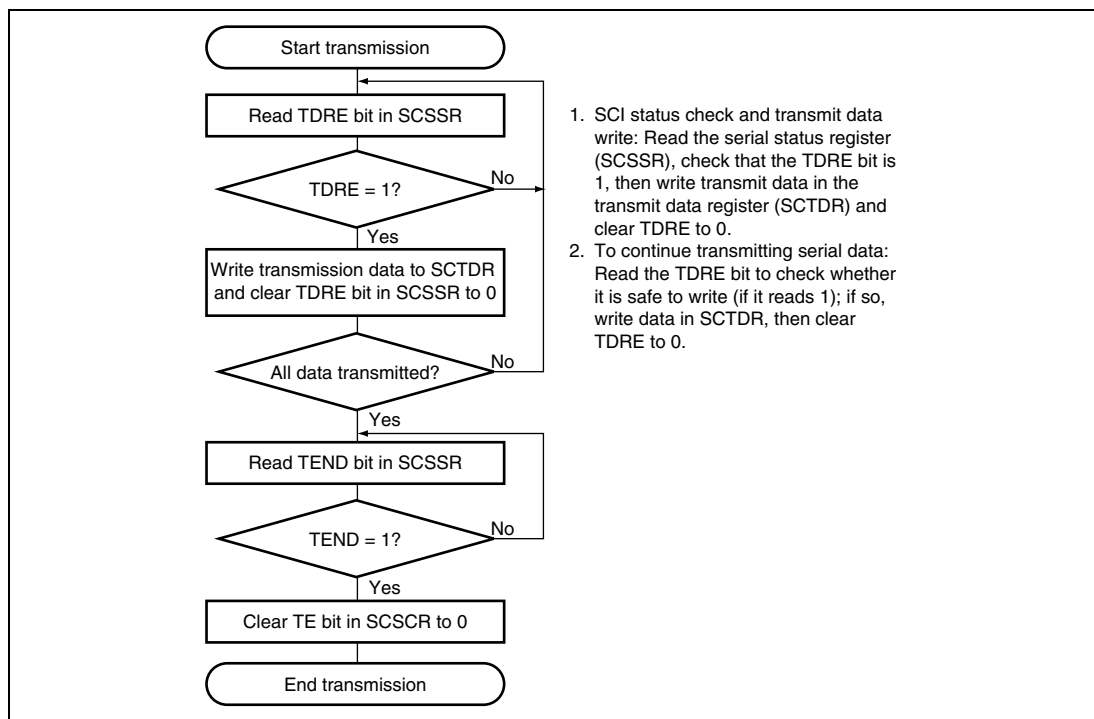

**Figure 14.19 Sample Flowchart for Serial Transmitting**
**Transmitting Serial Data (Clock Synchronous Mode):** Figure 14.19 shows a sample flowchart for transmitting serial data. Transmission of serial data should be carried out in the following procedure after setting the SCI in a transmission-enabled state.